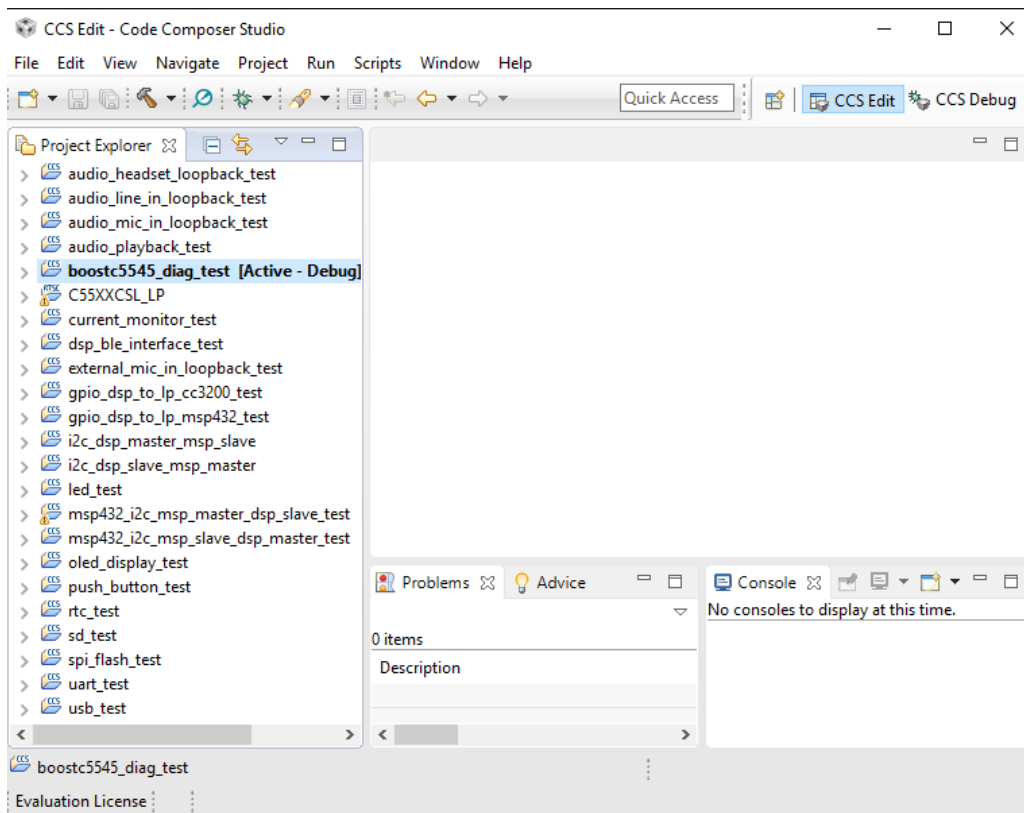

Figure 3. Project Explorer Window
3. Select all the projects and click on the 'Finish' button. Projects should appear in the 'Project Explorer' window as shown in Figure 3.